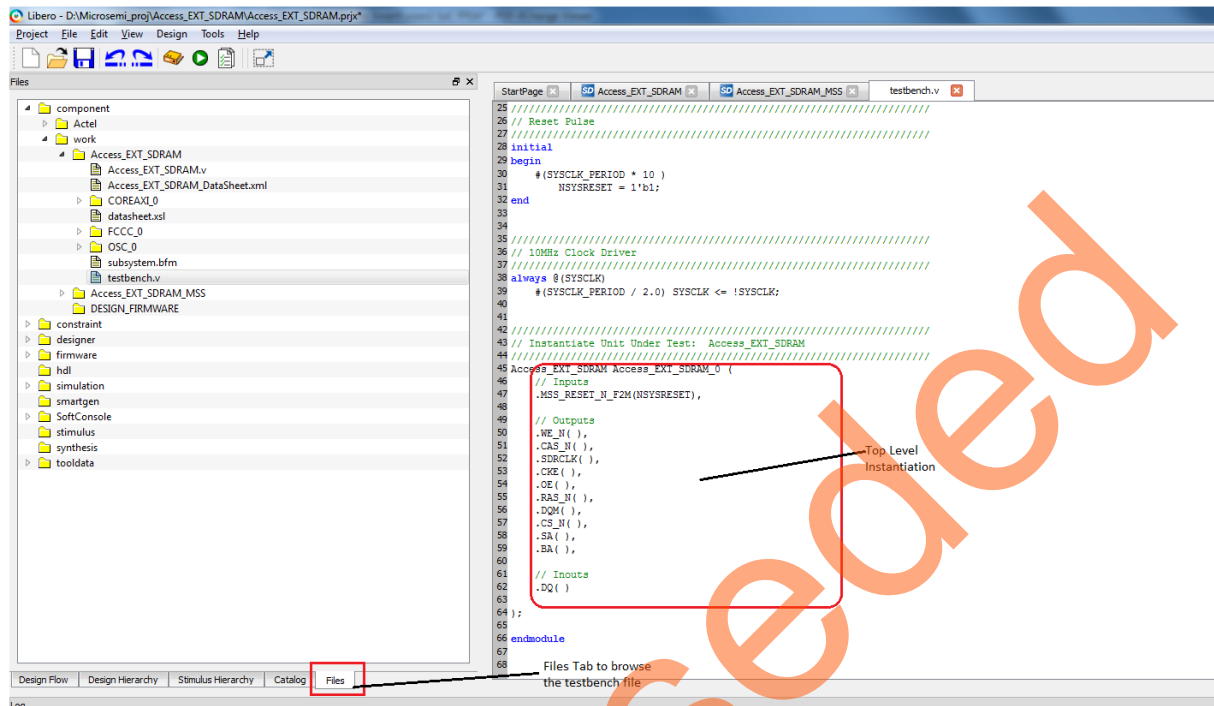

Figure 30. Default Testbench
3. In the generated testbench, add the external SDR SDRAM simulation model and map the port with the top-level design SDRAM interface signals. Double-click **testbench.v** in the **Files** tab to open the file, as shown in Figure 30.